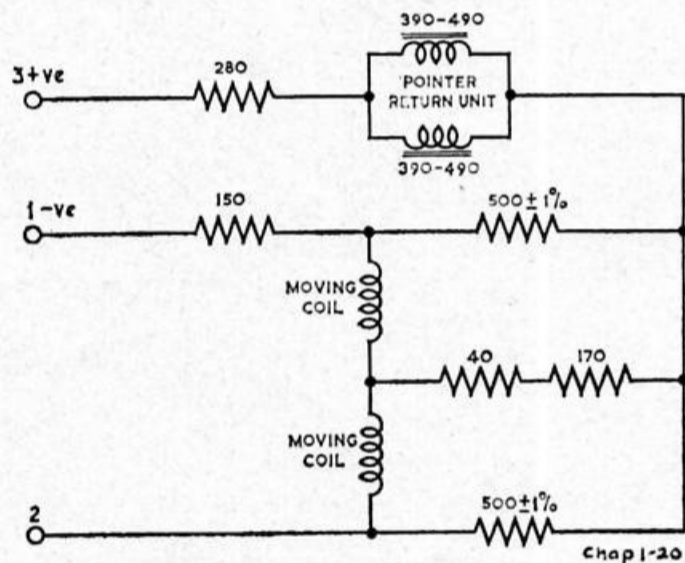

Fig. 2. Circuit diagram
2. The circuit diagram is shown in *fig. 2*, and connections to the indicator are made via 3 terminal screws.